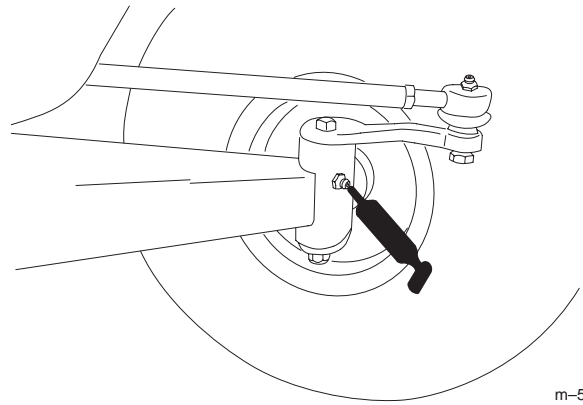
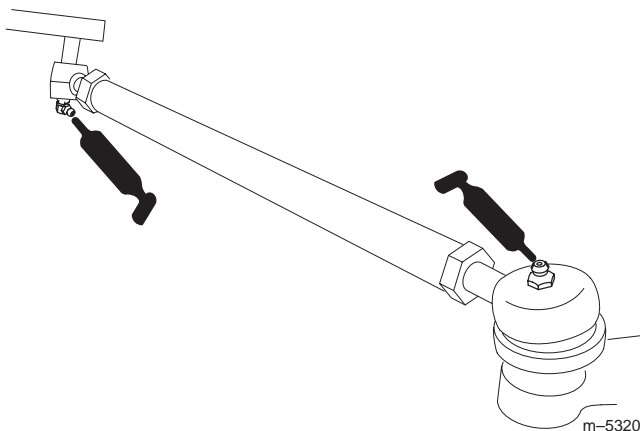

Figure 21
Figure 20
The grease fitting locations are at the tie rod ends (4) (Fig. 20) and the king pins (2) (Fig. 21).